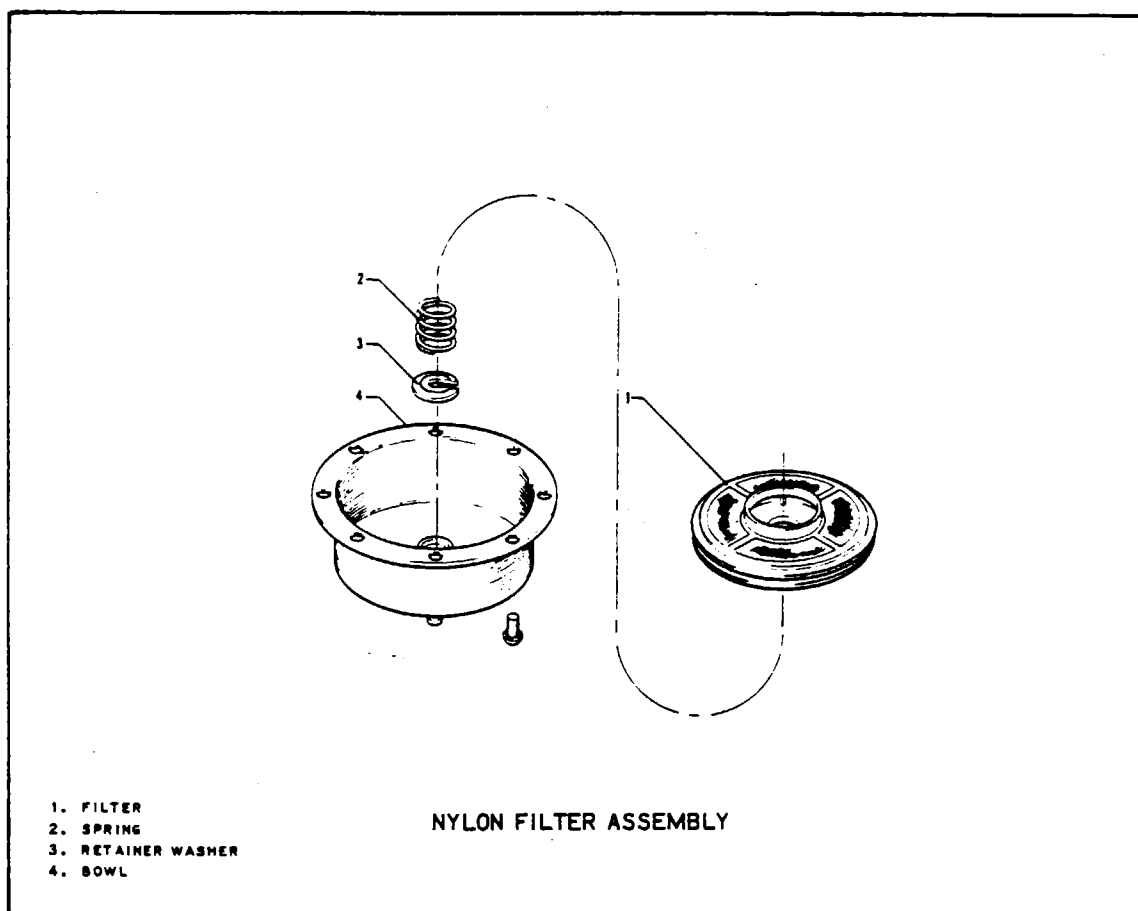

Figure 9-4. Fuel Filter
- c. Remove filter disc assembly from center stem by compressing filter retainer spring and removing filter retainer washer. (Refer to Figure 9-4.)